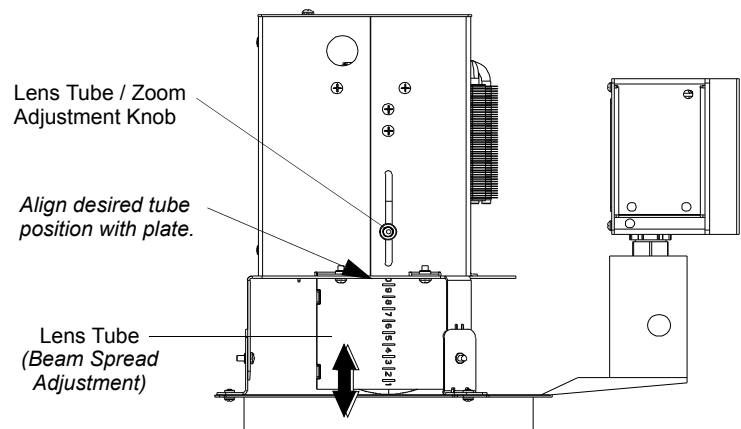

Figure 4: Lens Tube (Beam Spread Adjustment) Setting
- Step 5. As shown in **Figure 4**, adjust luminaire beam spread as desired by loosening the lens tube / zoom adjustment knob and moving lens tube in or out. Once adjustment is complete, re-tighten lens tube / zoom adjustment knob. Note, beam spread can be adjusted at anytime throughout the installation process and after-installation as desired.